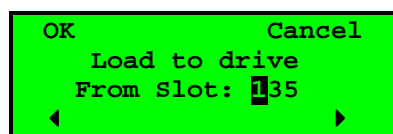

Figure 4.11. Load to Drive.
1. From the default display press the menu button and select “Load to Drive” from the main menu. A screen like Figure 4.11 appears. If a Barcode reader is implemented, the selected cartridge’s barcode is displayed in the bottom line.